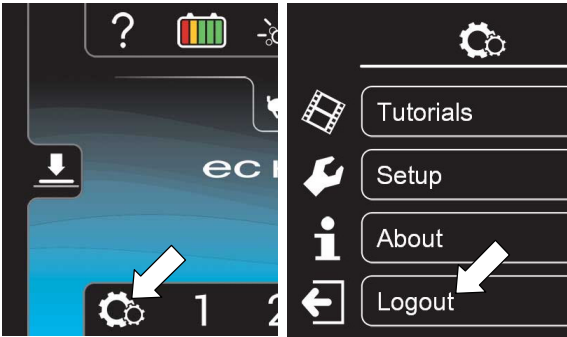

FIG. 149
10. When the user is done operating the machine, it is recommended to have the user log out by pressing the Settings button, then pressing the logout button (Figure 149). Turning the key to the off position is another way to also logout.